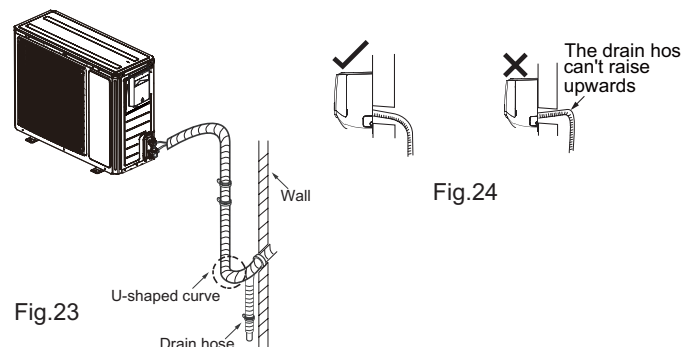

Fig.23
- (1) The pipes should be placed along the wall, bent reasonably and hidden possibly. Min. semidiameter of bending the pipe is 10cm.
- (2) If the outdoor unit is higher than the wall hole, you must set a U-shaped curve in the pipe before pipe goes into the room, in order to prevent rain from getting into the room.(As show in Fig.23)